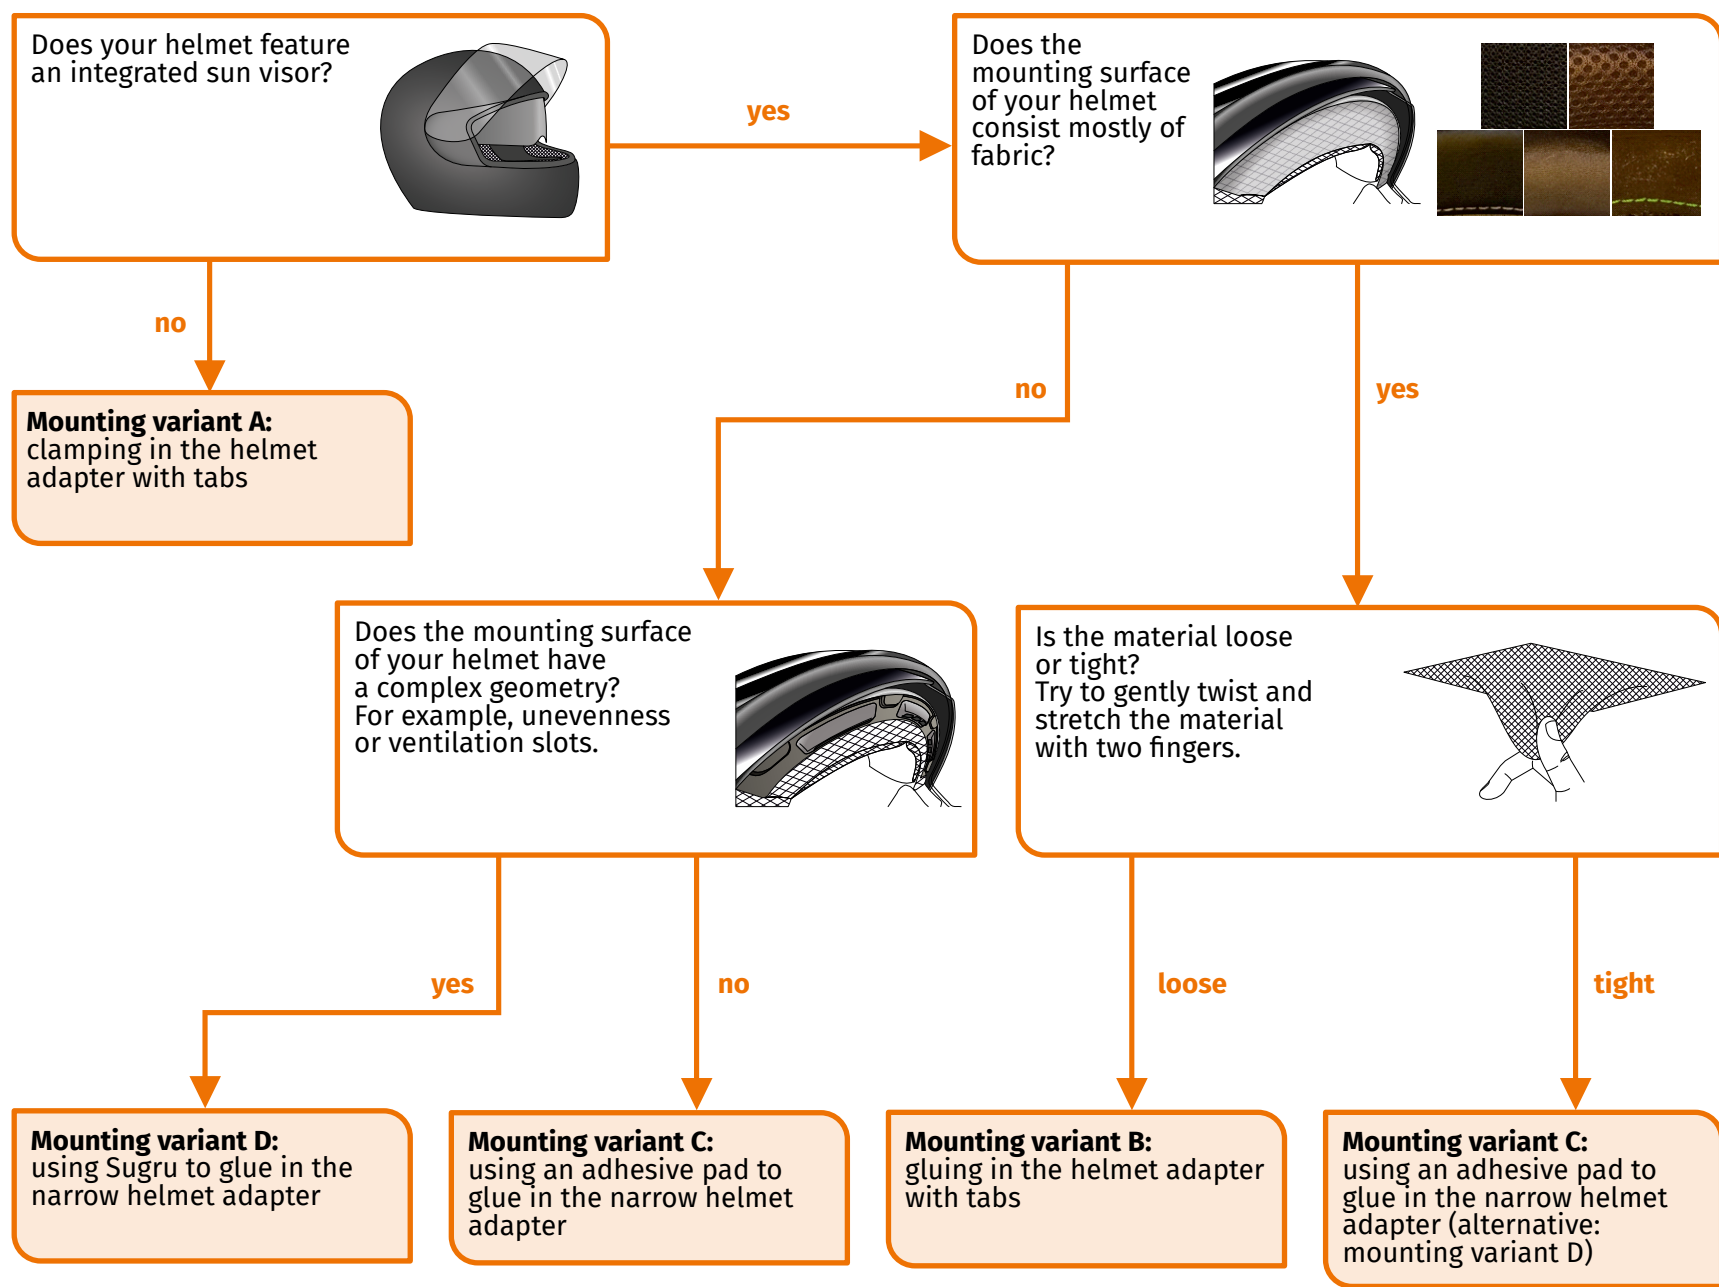

FIGURE 5 // Decision guide: selecting the helmet adapter
1. Determine your helmet type and the appropriate mounting variant (FIGURE 5).
The pages after the decision guide (FIGURE 5) provide examples of different helmet types and material types as well as details on how to select a mounting variant (Chapter “3.2 Examples of helmet types”, p. 16).